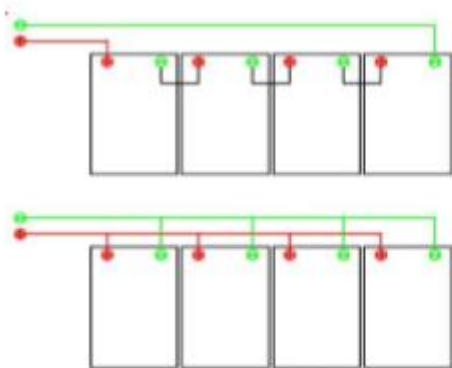
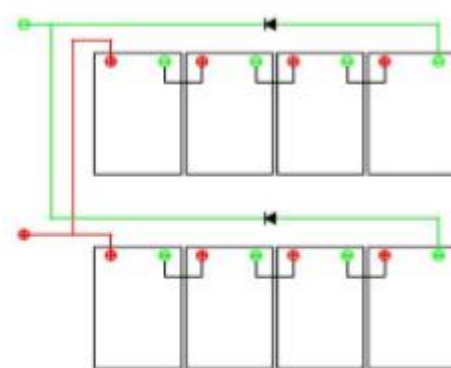

figure 1
figure 2
5.2.6. Wiring In order to ensure PV system could operation smoothly, when connecting modules or connecting loads (such as inverters batteries, etc.), ensure that the polarity of the cables is properly connected (Figure 1 and Figure 2). If modules are not connected properly, the bypass diode may be damaged. Modules could be connected in series to increase voltage. Connecting modules in series by inserting the positive terminal of one module into the negative terminal of the next module. Figure 1 shows the serial connection of modules. Modules could be connected in parallel to increase current (shown in Figure 2). Connecting modules in series in Parallel by inserting the positive terminal of one module into the negative terminal of the next module. The number of modules connected in series or in parallel needs to be reasonably designed according to the system configuration. All instructions above must be followed to meet the MPS Warranty valid conditions.